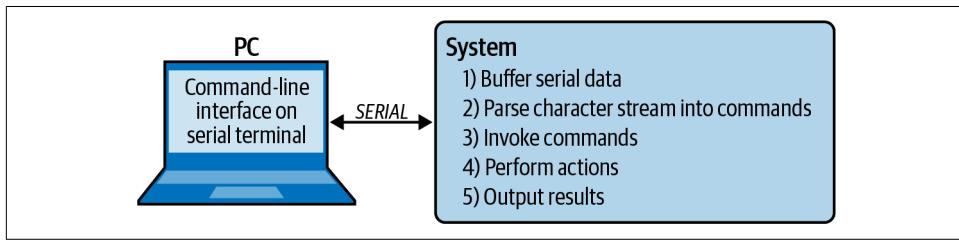

Figure 3-15. Goals for a command handler
**Figure 3-15** shows some high-level goals for our automated command handler, one that will let us send a command from a serial terminal on a PC and get a response from the unit under test.